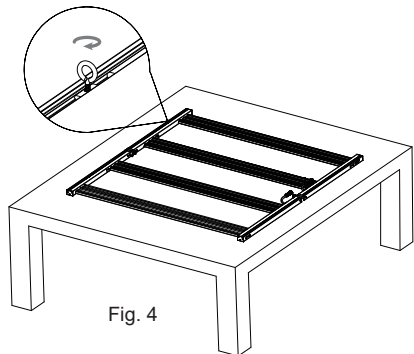

Fig. 4
- Once the eyebolts are in position, screw them in as shown in Fig. 4.